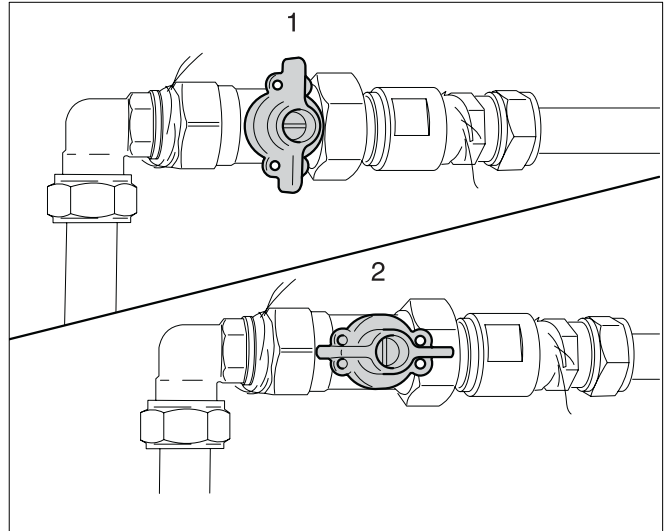

Fig. 115 Gas shut-off valve closed (1), gas shut-off valve open (2)
- Close the gas shut-off valve (see fig. 115, pos. 1).